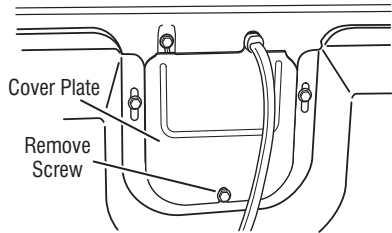

Figure 5 - Remove the cover plate (gas).
2. Remove the cover plate from the back of the dryer. See Figure 5.